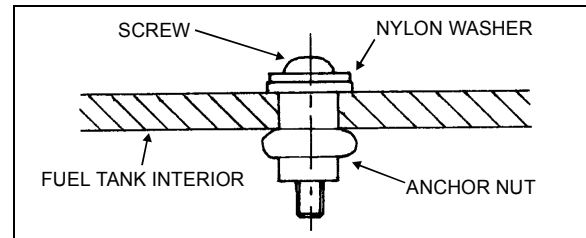

FIGURE 9: FUEL TANK REPAIR 03014
5. Place assembly in drill hole. tighten screw by 10 complete turns. Refer to Fig. 9.